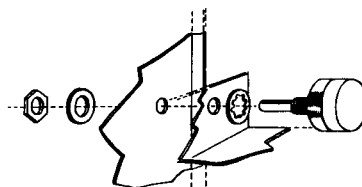

Fig. 10
- () Mount the sensitivity control in location M. See Figure 10 for details of hardware assembly. Keep the lugs exactly as indicated in Pictorial 3. On some controls, a small locating lug protrudes from the front of the control housing. If this lug interferes with the mounting, cut it off or bend it over.
- () Mount the phone jack (see Figure 10 and Pictorial 3) in location L. Keep the lugs oriented exactly as indicated.